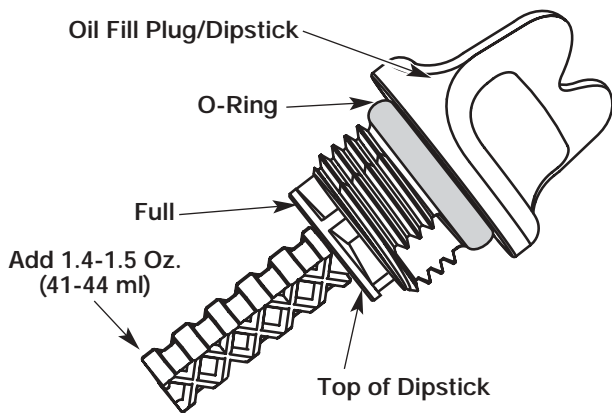
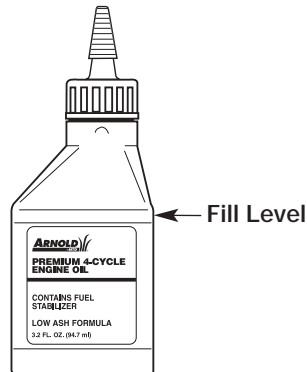

Fig. 27
Fig. 31
5. Remove the oil fill plug/dipstick and check oil level. Oil should be up to the top of the dipstick (Fig. 27).
6. If the level is low, add a small amount of oil to the oil fill hole and recheck (Fig. 27). Repeat until the oil level reaches the top of the dipstick.
NOTE: Use the bottle and spout saved from initial use to measure the correct amount. 3.4 ounce (100 ml) is approximately to the top of the label on the bottle (Fig. 31). Check the level with the dipstick. If the level is low, add a small amount of oil and recheck (Fig. 27). Do not overfill.